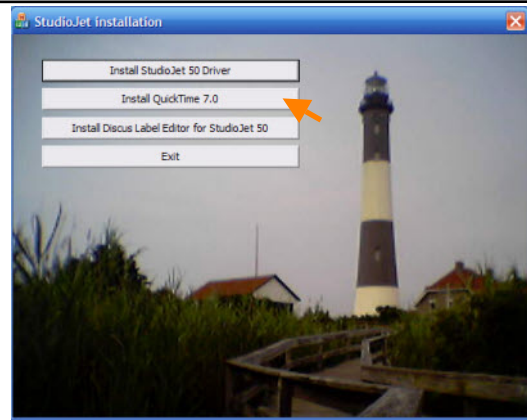

Figure 2.17
2. Now you are ready to install Discus LE 3.15 for the StudioJet. Click the **Install Discus Label Editor for StudioJet** button to launch the Discus install wizard (Figure 2.17).